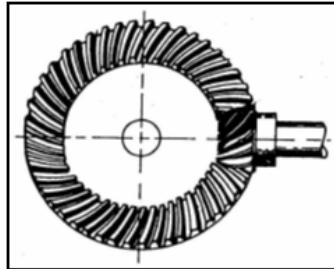
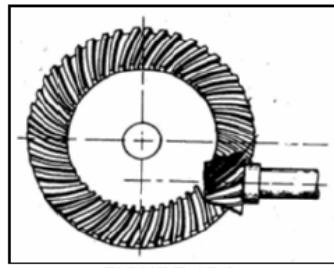

FIGURE 15.2
FIGURE 15.3
11.1.1 Identify the final drive systems shown in FIGURE 15.2 and FIGURE 15.3 below and give ONE advantage and ONE disadvantage of each. (8)